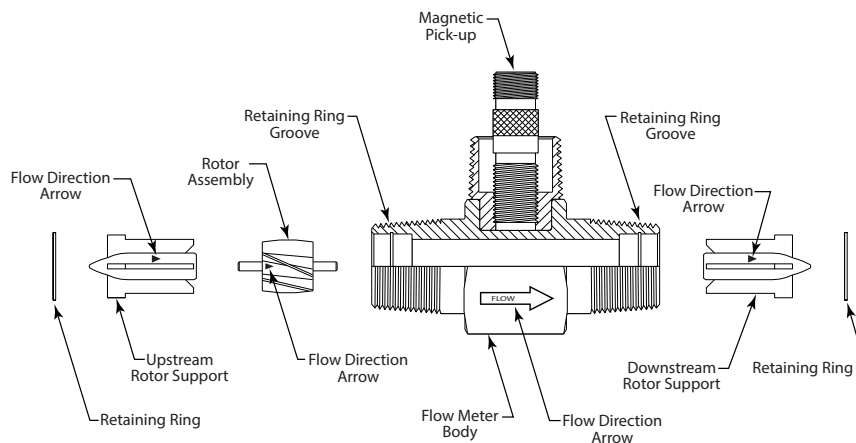
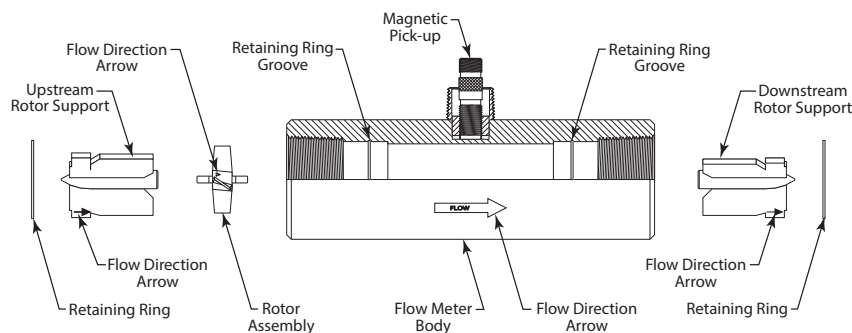
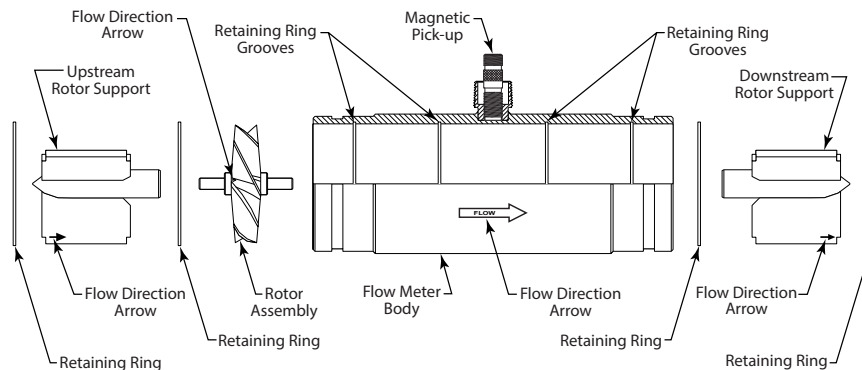

Figure 1: Component positions for BP110-375...BP111-115 and BP111-121
Figure 2: Component positions for BP111-120 and BP111-130
Figure 3: Component positions for BP111-140 and BP111-200
1. Refer to *Figure 1*, *Figure 2* and *Figure 3* for relative positions of repair kit components.
**NOTE:** 4 in. and larger meters have two retaining rings (one on either side of the rotor) that require removal before the rotor can be removed (see *Figure 3*).
Before reassembly, note that an arrow is cast or engraved on each component. The arrow indicates the primary flow direction. When reassembled, the arrowheads must point in the direction of the fluid flow. The arrows must also be oriented in the up position on both rotor supports. The magnetic pickup side of the body signifies the up position. Performance of repair kit calibration is in the up position. Reinstallation of the repair kit in the up position ensures continuation of accurate measurements. Figure 1, Figure 2, and Figure 3 show the proper alignment and orientation of the repair kits.
**NOTE:** 4 in. and larger meters have a retaining ring at both ends of the rotor (see Figure 3).